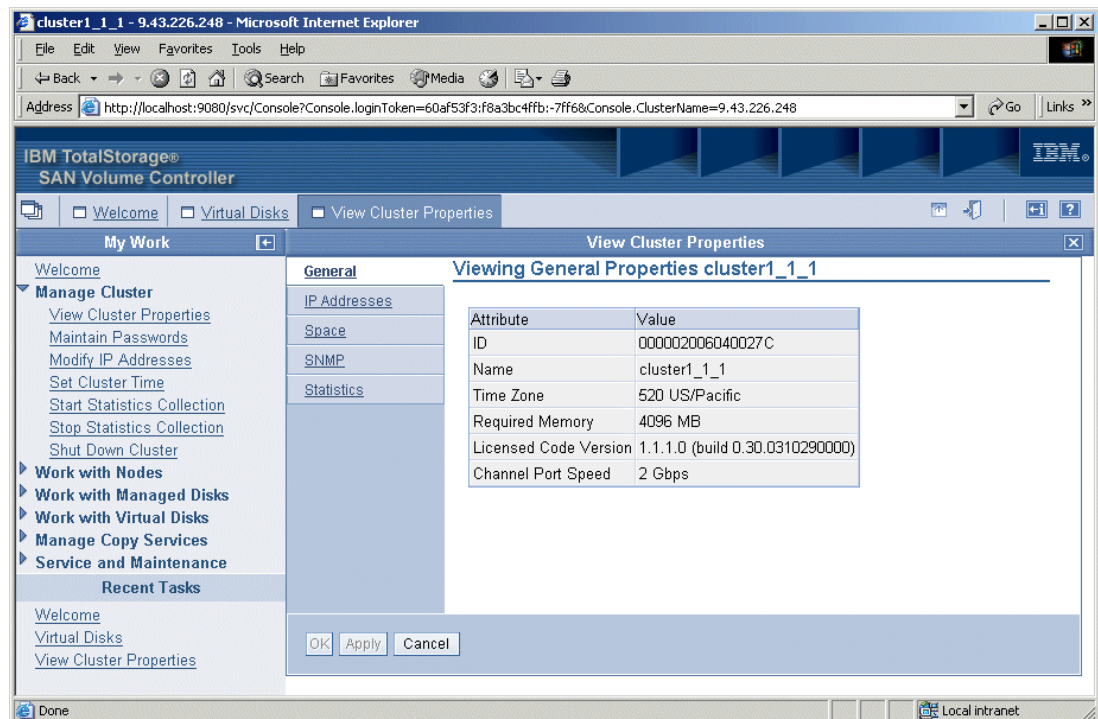

Figure 9-6 View Cluster Properties: General properties
2. The Viewing General Properties panel (Figure 9-6) opens. Click the **IP Addresses**, **Space**, **SNMP**, or **Statistics** links and you see additional information that pertains to your cluster.